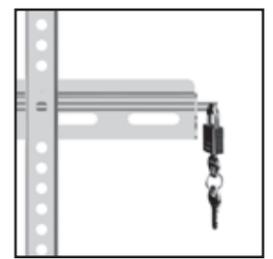

Fig. 6 - A small padlock can be used to help prevent theft of your display.
2. **Important!** Insert the safety bar at the bottom of the mount to avoid having the display accidentally knocked off the mount. A padlock can be used at one end of the bar to help prevent theft of your display (Fig. 6).